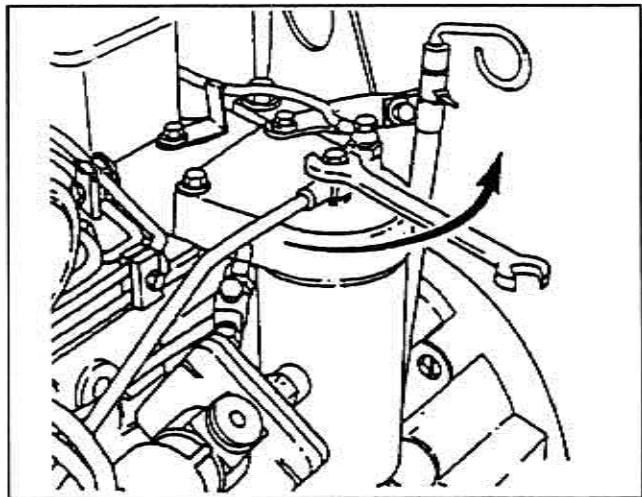

Figure 1. Low pressure lines
- a. Open vent screw (8mm) as shown in Figure 1.